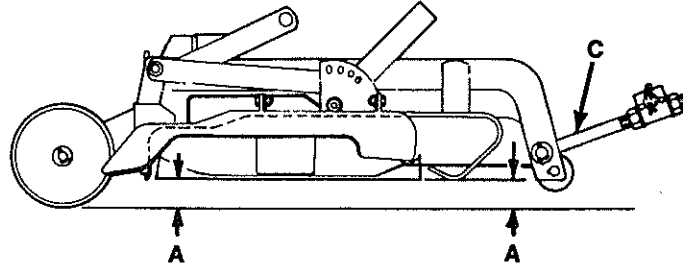

Fig. 8-1
4. Measure mower blade tip height front and rear. Front of blade should be even with rear (A, Fig. 8-1). If not, adjust rod length of front links (C). Lengthen rods to lower front and shorten rods to raise front.